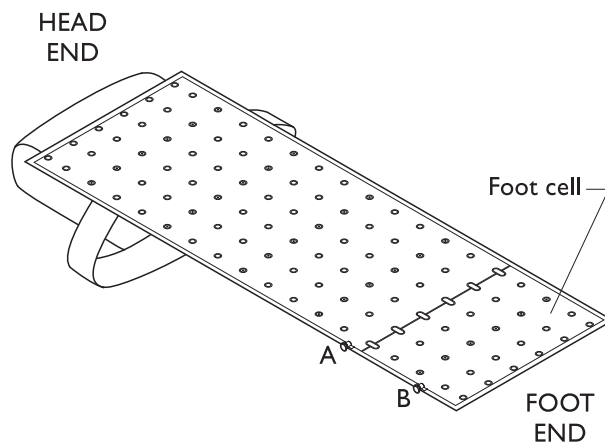
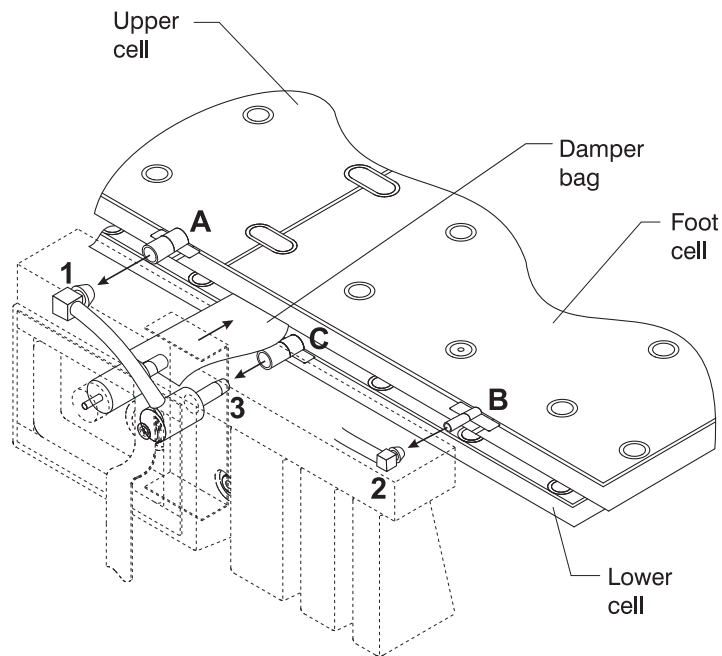

Figure 13—Upper cell
Figure 14—Control panel-to-cell connections
3. Take one finger and press against the CPR valve hose outlet to stop the air flow into the lower cell. This will have to be done by pressing on the upper layer of the cell (near point C, figure 14, page 22). Use care not to damage the urethane.
3. Disconnect valves A and B from items 1 and 2 (fig. 14) on the panel assembly, using a twist-and-pull motion.
8. See figure 14. Push the two valve stems (items A and B) of the cell onto the two 90° connectors (items 1 and 2) on the panel assembly, until the face of each valve touches the shoulder of the 90° connector.
9. Position the damper bag (fig. 14) between the upper and lower cells.
3. Disconnect valves A and B (fig. 13) from the panel assembly (fig. 14, items 1 and 2) using a twist-and-pull motion.
- Disconnect valve C (fig. 14) from the panel assembly using a twist-and-pull motion.
- Push valve C onto the black connector (item 3, fig. 14) until the end of the tube touches the shoulder of the connector.
11. Push the two tubes (items A and B, fig. 14) of the upper cell onto the two 90° connectors (items 1 and 2) on the panel assembly, until the end of each tube touches the shoulder of the 90° connector.
12. Position the damper bag (fig. 14) between the upper and lower cells.
3. Disconnect valves A, B, and C from panel assembly items 1, 2, and 3, using a twist and pull motion (fig. 14).
15. Push valve C onto the black connector (location 3, fig. 14, p. 22) until the face of the valve touches the shoulder of the connector.